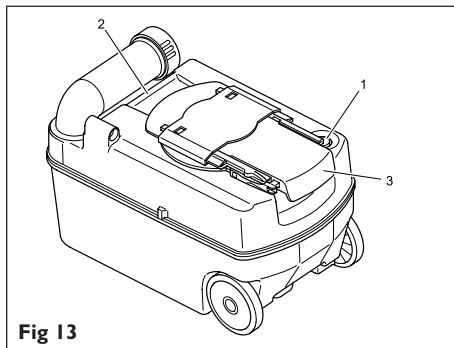

Fig 13
6. Hold the cassette tank with one hand by the handle (fig 13, 2). With the other hand hold it at the blade handle (fig 13, 3) so that you can operate the vent button (fig 13, 1) during emptying.